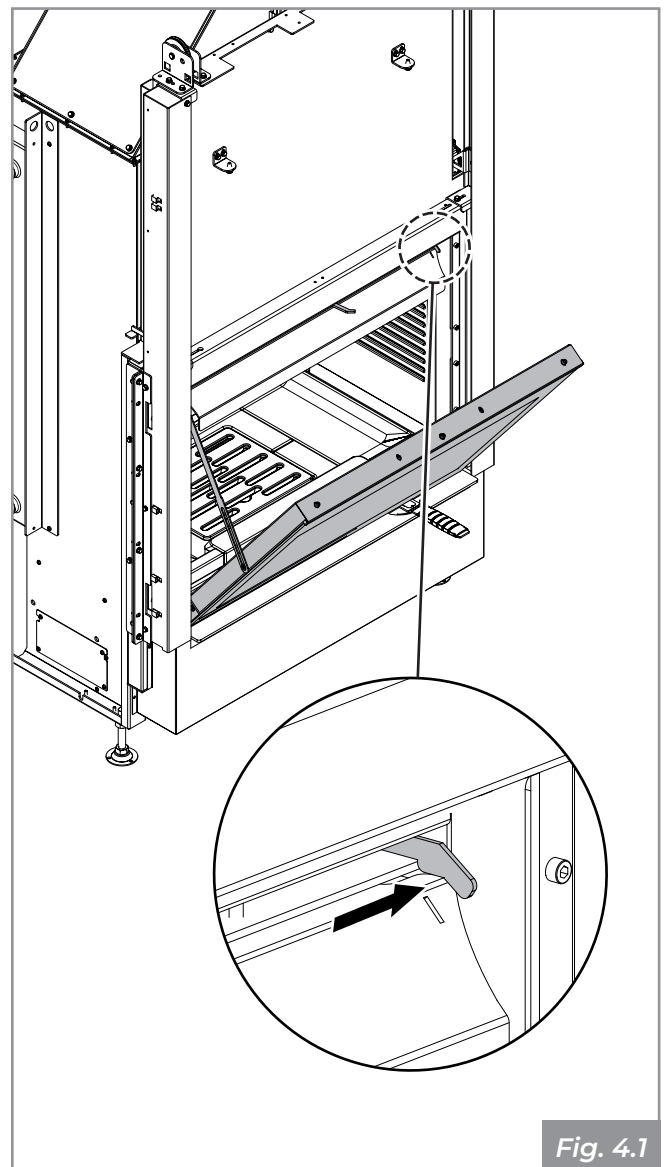

Fig. 4.1
2. Adjust the glass cleaning air (fully open) as shown in **Fig. 4.1**;